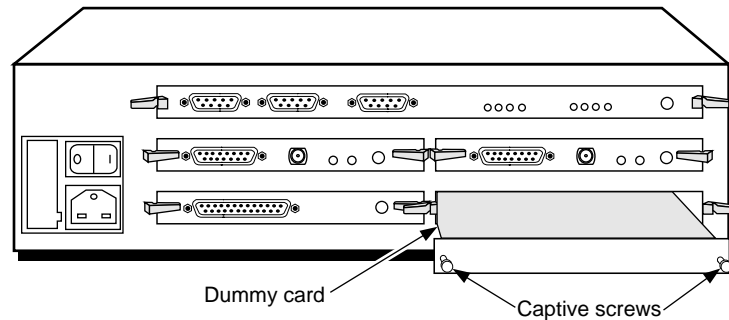

Figure 2-2 Removing a Blanking Plate
- 7 Using a flathead screwdriver (if necessary), remove the blanking plate from the selected I/O slot for the HSS V.35 module (see Figure 2-2).